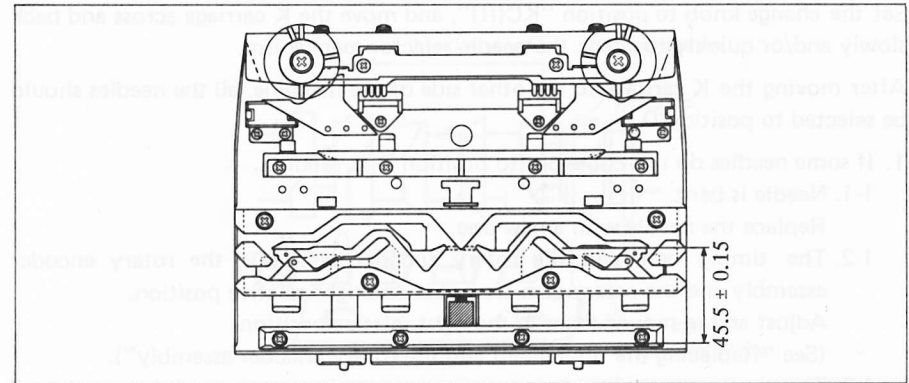

Fig. 11
- 5-4. From the back side of the L carriage rear foot, measure by use of a sliding calipers to place main cam in such a way as shown in Fig. 11 and fasten with three clamping screws.